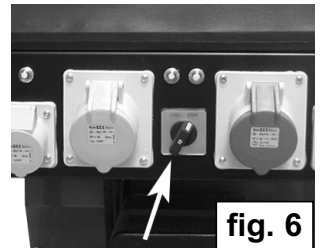

fig. 6
- 3.5.2. Select the required voltage output using the voltage selector switch (fig. 6).